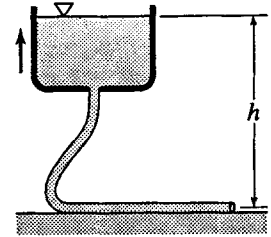

Figure P12.9
12.9 Attached to the tank in Fig. P12.9 is a flexible 1.5-in-diameter hose ( $f = 0.020$ ) 250 ft long. The tank is hoisted in such a manner that  $h = 25 + 2t$ , where  $h$  is the head in feet and  $t$  is the time in seconds. (a) Find as accurately as you can the flow rate at  $t = 10$  sec. (b) Suppose  $h$  were decreasing at the same rate. What would be the flow rate when  $h = 45$  ft?